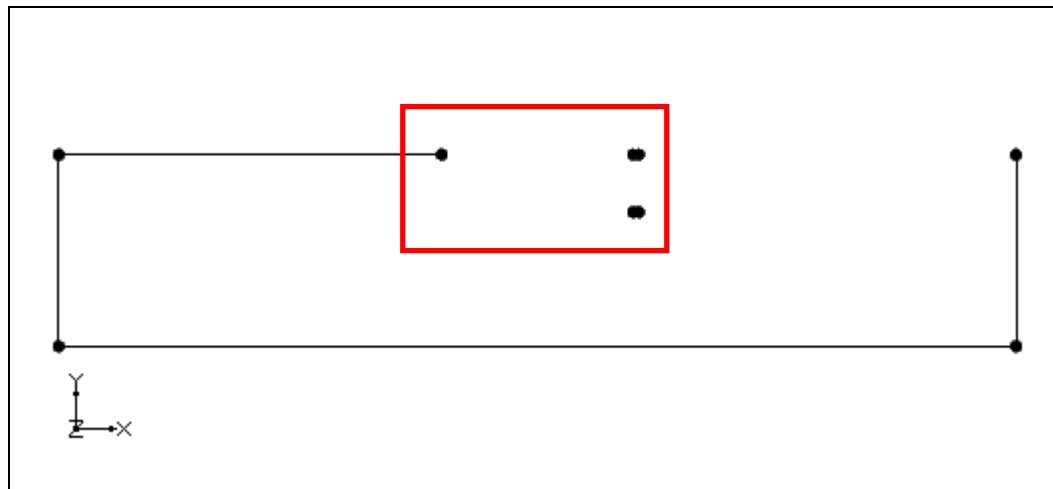

Figure 4 Arcs connecting points
4. Select the **Zoom**  tool and drag a box similar to that shown by the red box in Figure 4.